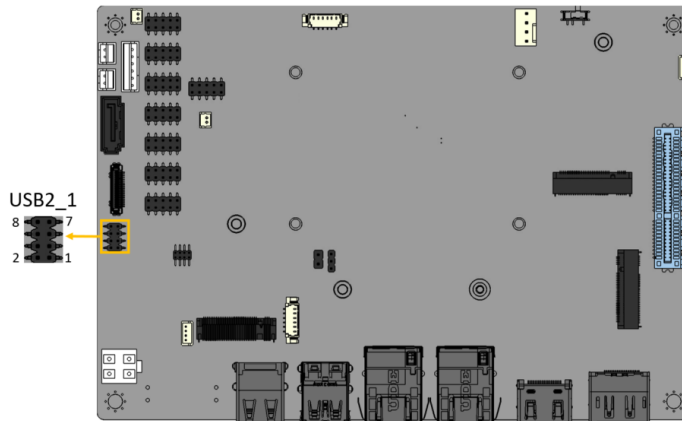

Figure 3-24: Internal USB 2.0 Connectors Locations
- CN Location:** See **Figure 3-24**